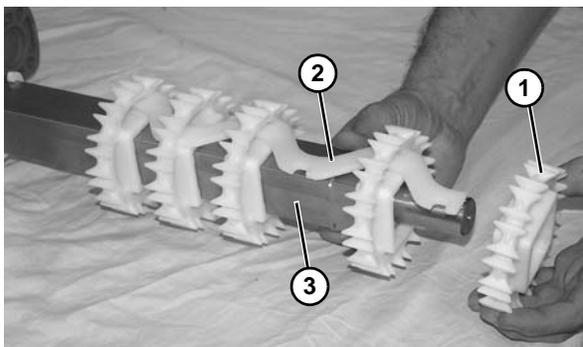

Figure 51
10. Remove the sprockets (Figure 51, item 1) and sprocket key (Figure 51, item 2) off the shaft (Figure 51, item 3).